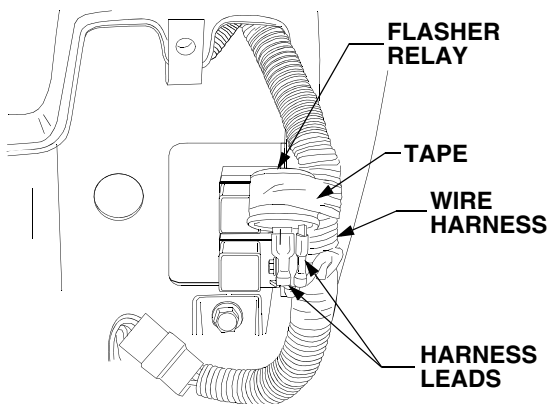

Figure 43
- Pull the wire harness from the right side of the dash opening and remove the electrical tape from the flasher relay. See Figure 43.